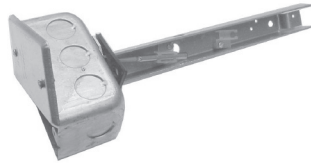

Figure 9. Sensor Holder and Junction Box Assembly
- b. For units with sensor holder and junction box assembly option (see Figure 9):